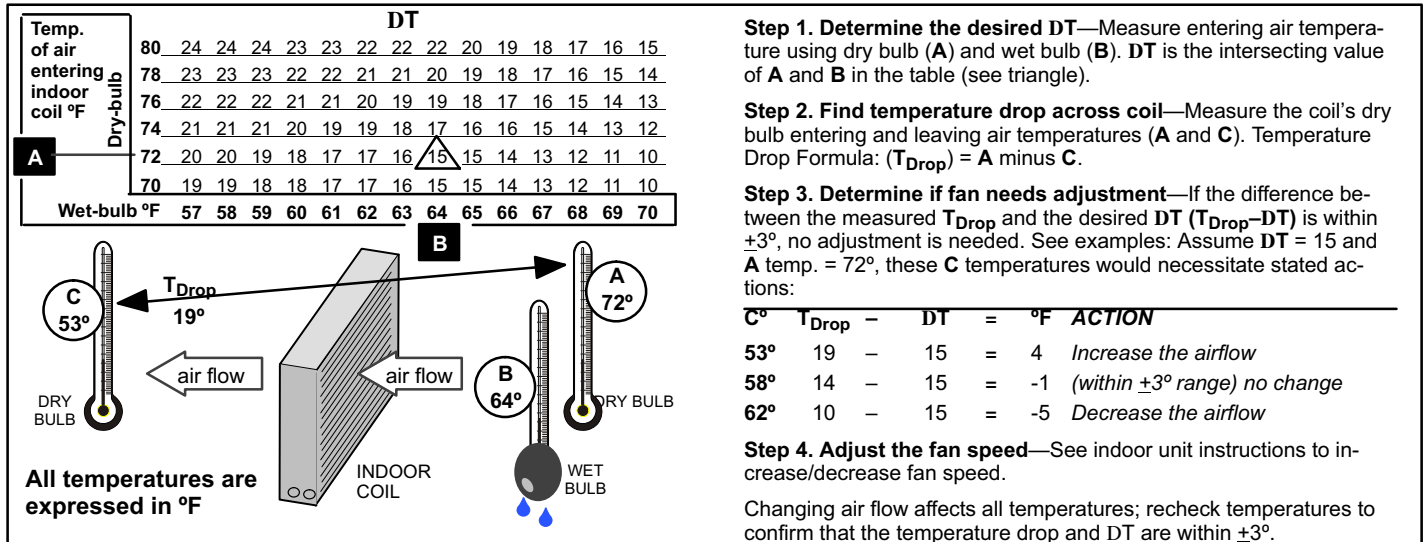

FIGURE 9
Check indoor airflow using the step procedures as illustrated in figure 9.
- 1-. Confirm proper airflow across coil using figure 9 on page 9.